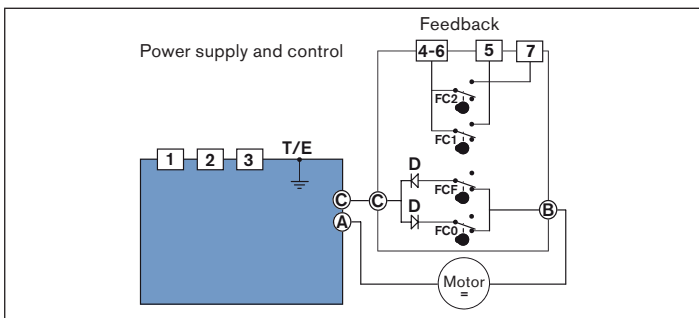

Fig. 16: Internal wiring of actuator
→ Connect cable to the terminal strip (pos.12, "Fig. 1" and "Fig. 2") according to the schematic ("Fig. 16").